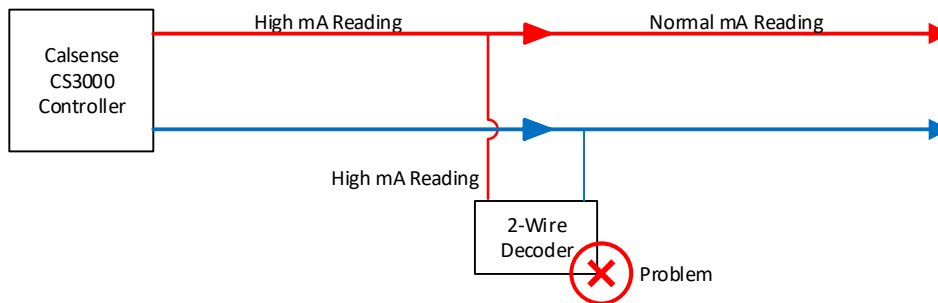

Figure 4 - Visual depiction of problem occurring at decoder.
- If the readings upstream and on the decoder are high, but the reading downstream is normal, the decoder is shorted and causing the overcurrent, as shown in Figure 4 below. Proceed to Removing the Source of the Constant Overcurrent.